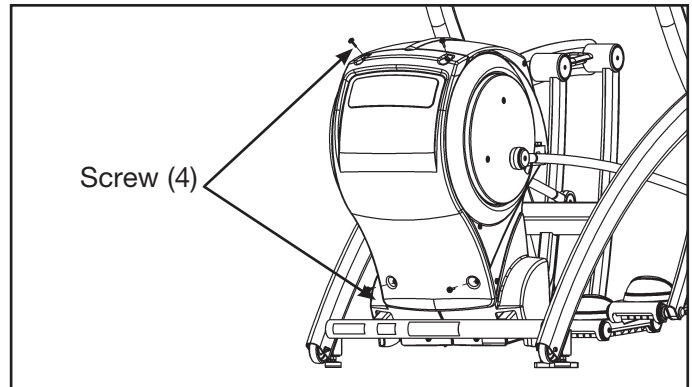

Figure 2
- A. Turn the main power switch to the off (0) position and unplug the power cord from the power outlet
- A. Using a Phillips head screwdriver, remove the four screws and four washers securing the access cover. See Figure 2.
- A. While being sure not to pinch any cables, hold the access cover in place. See Figure 2.
- B. Using a Phillips head screwdriver, tighten the four screws and four washers securing the access cover. See Figure 2.